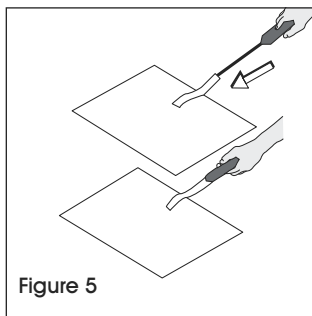

Figure 5
2. Select the proper size bag and load it on the air supply nozzle. (See Figure 5)